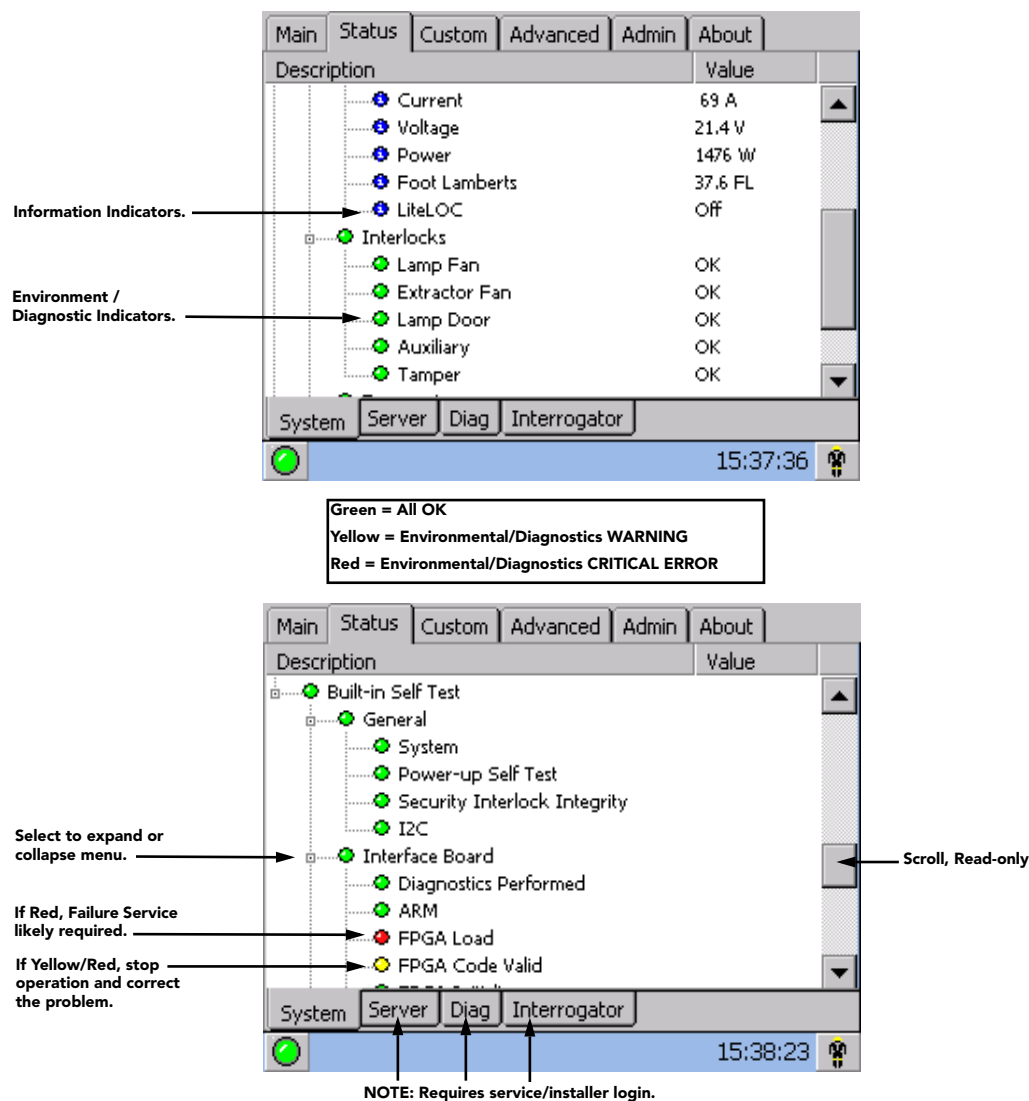

Figure 3-6 Status: System Menu
Navigate the **Status** menu as you would Windows *Explorer* or *File Manager*, expanding or compressing directories as desired by pressing the corresponding small square buttons. To see more of the **Status** menu, drag the scroll bar up or down. This menu updates approximately every 30 seconds. A sample view of the **Status: System** menu is shown in **Figure 3-6**.
**INFORMATION INDICATORS:** As shown in **Figure 3-6**, this blue symbol identifies basic informative data describing the source connection, as well as certain non-critical historical/operational facts about the projector and lamp. Such data does not trigger warnings or error conditions.